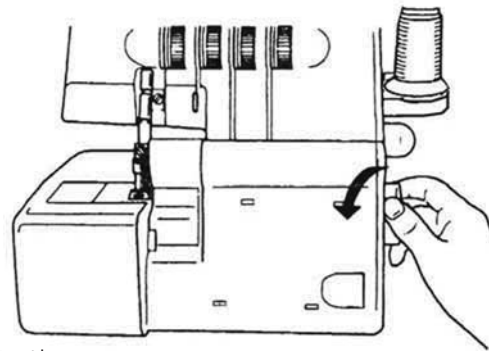

Fig. 9b
1. Turn the handwheel **6** towards yourself until the needles are in the highest position (Fig. 9b)
Always turn the handwheel **6** only towards yourself (Fig. 9b).